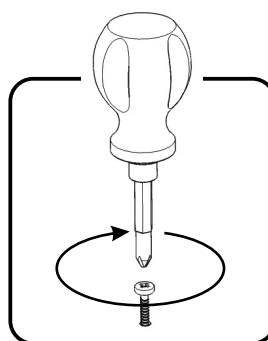

Figure 4
Attach unit to Base (J) with Wood Screws for Base, into pre-drilled holes. (See Figure 4)